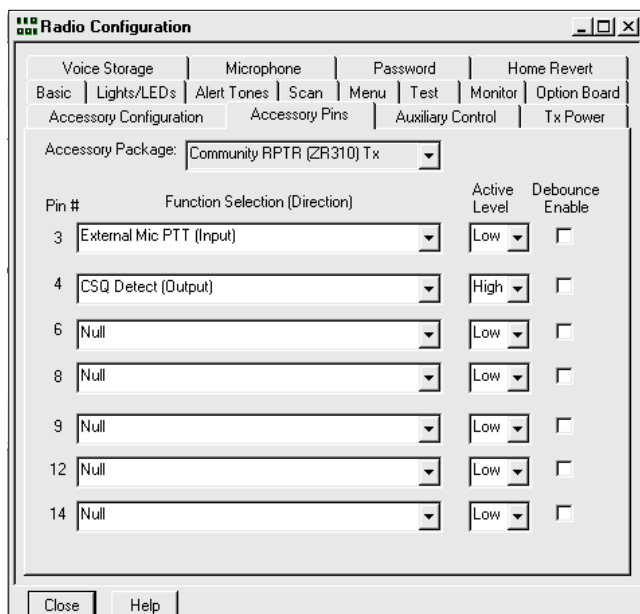

Figure 9-5. Radio Configuration, Accessory Connector, Transmit Radio
7. Click the “Accessory Package” dropdown arrow button. Select “Community RPTR (ZR310) Tx”. Verify pin 3 is defined as “External Mic PTT (Input)”, Active Level “Low” and pin 4 is defined as “CSQ Detect (Output)”, Active Level “High”. Your screen should appear similar to Figure 9-5.